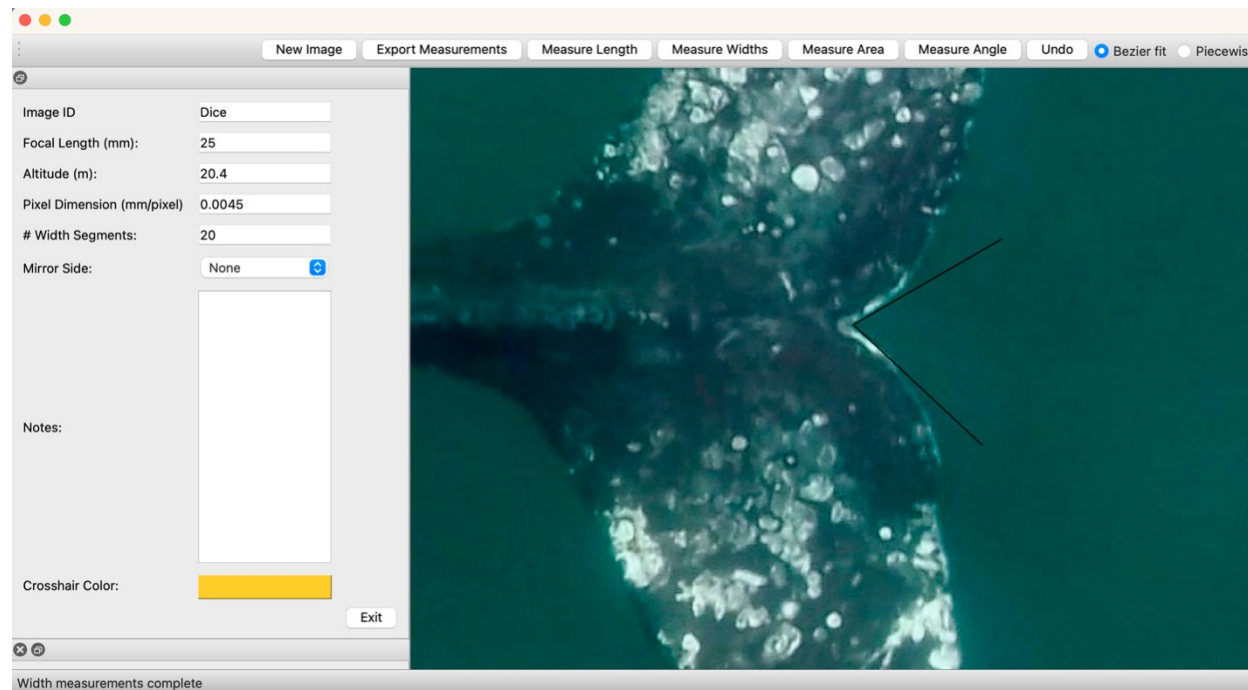

Figure 14. Completed angle measurement of the fluke notch.
- Draw the first vector, click to create a vertex, then draw the second vector (Figure 14).